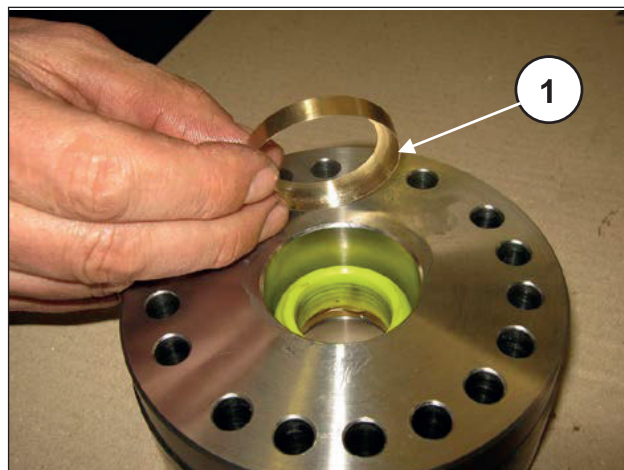
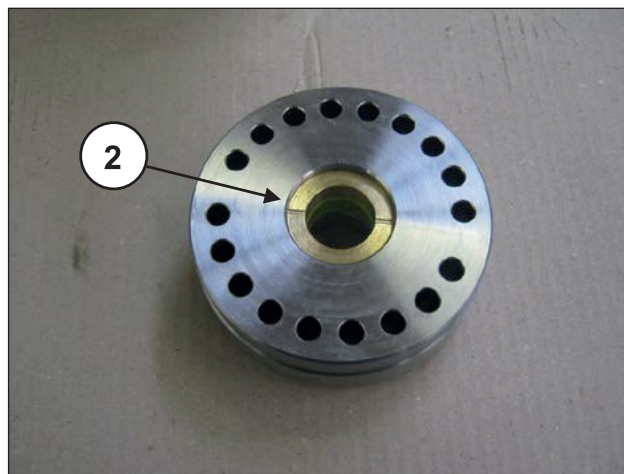
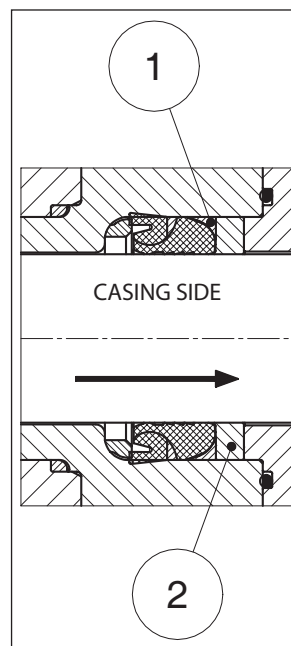

Fig. 201
Fig. 202
Fig. 203
Insert the anti-extruder ring and the seals bush (pos. ① and ②, Fig. 201 - Fig. 202 and Fig. 203).
The gasket bush ② must be introduced into the HP gasket support with the outlets facing outwards (casing side) as shown in Fig. 203.